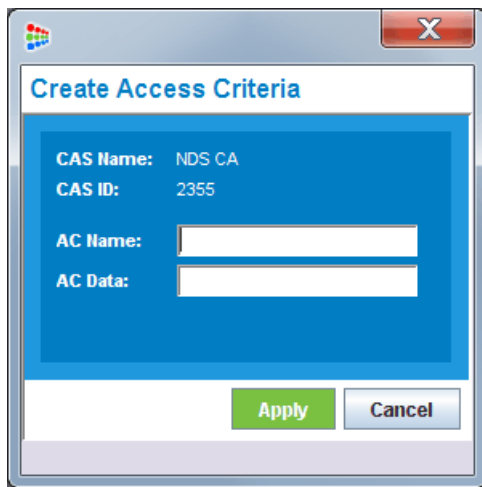

Figure 270. Create Access Criteria dialog
3. The **Create Access Criteria** dialog of Figure 270 opens.